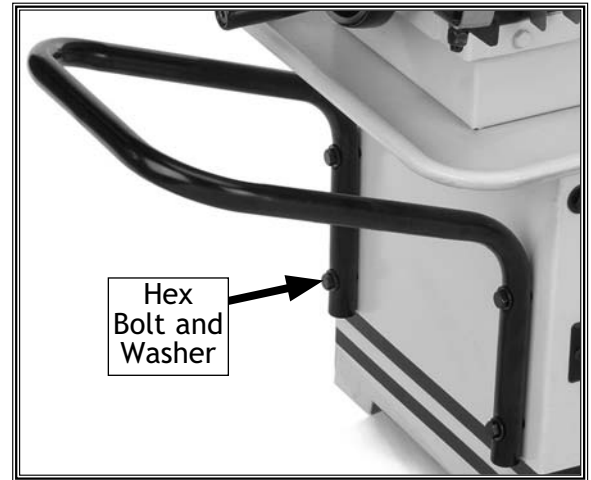

Figure 10. Installed handle.
2. Align the handle mounting holes with the bandsaw holes, and install the 5/16"-18 x 1-1/2" hex bolts, washers, and nuts (see **Figure 10**).